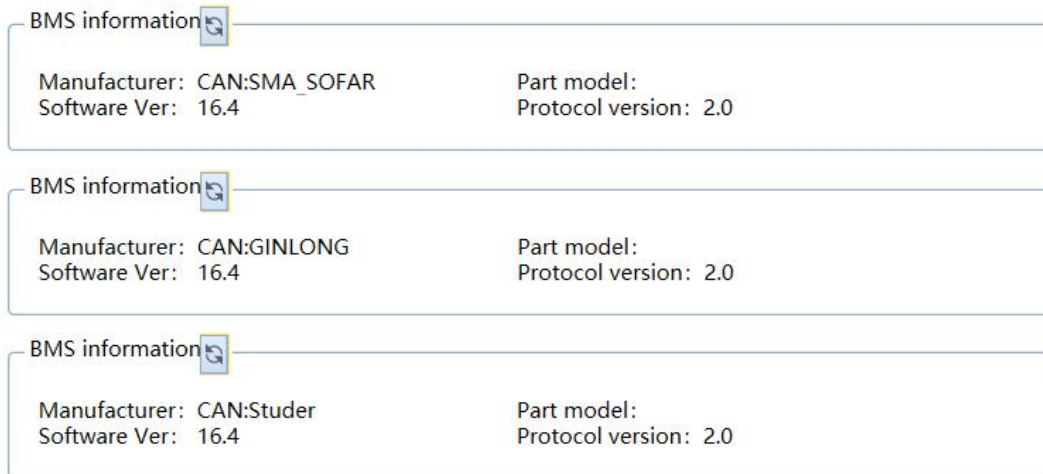

Figure 7-3
3) Click "Refresh", the manufacturer information will display the corresponding inverter manufacturer information, Figure 7-3